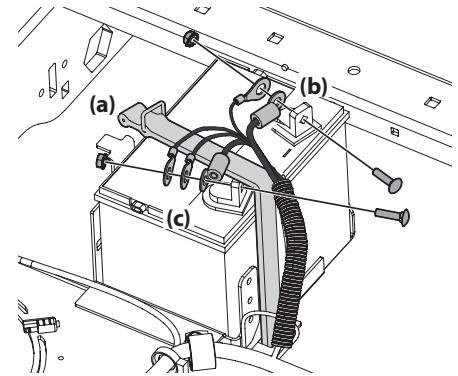

Figure 31
2. Remove the bolt and nut securing the negative cable grouping (b) to the negative battery post (marked NEG (-)). Move the cable grouping away from the negative battery post. See Figure 31.
3. Remove the bolt and nut securing the positive cable grouping (c) to the positive battery post (marked POS (+)). See Figure 31.
4. Unhook the strap (a) holding the battery in place. See Figure 31.